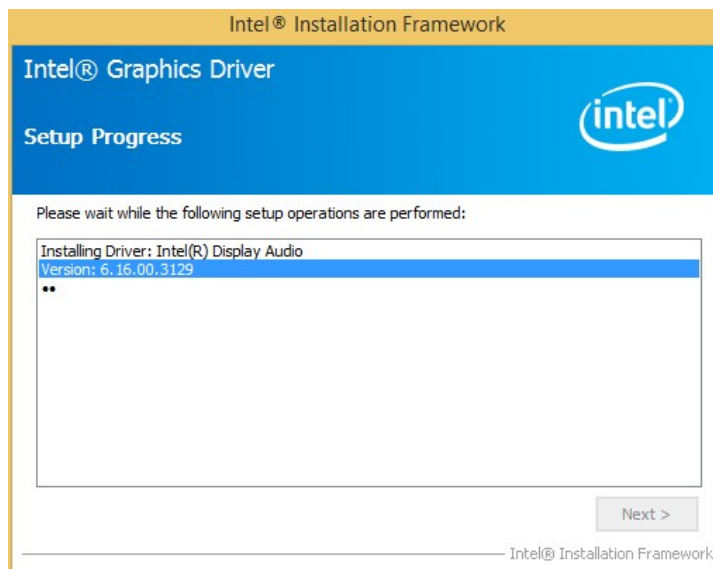

Figure 6-11: Graphics Driver Setup Operations
**Step 9:** **Setup Operations** are performed as shown in Figure 6-11.